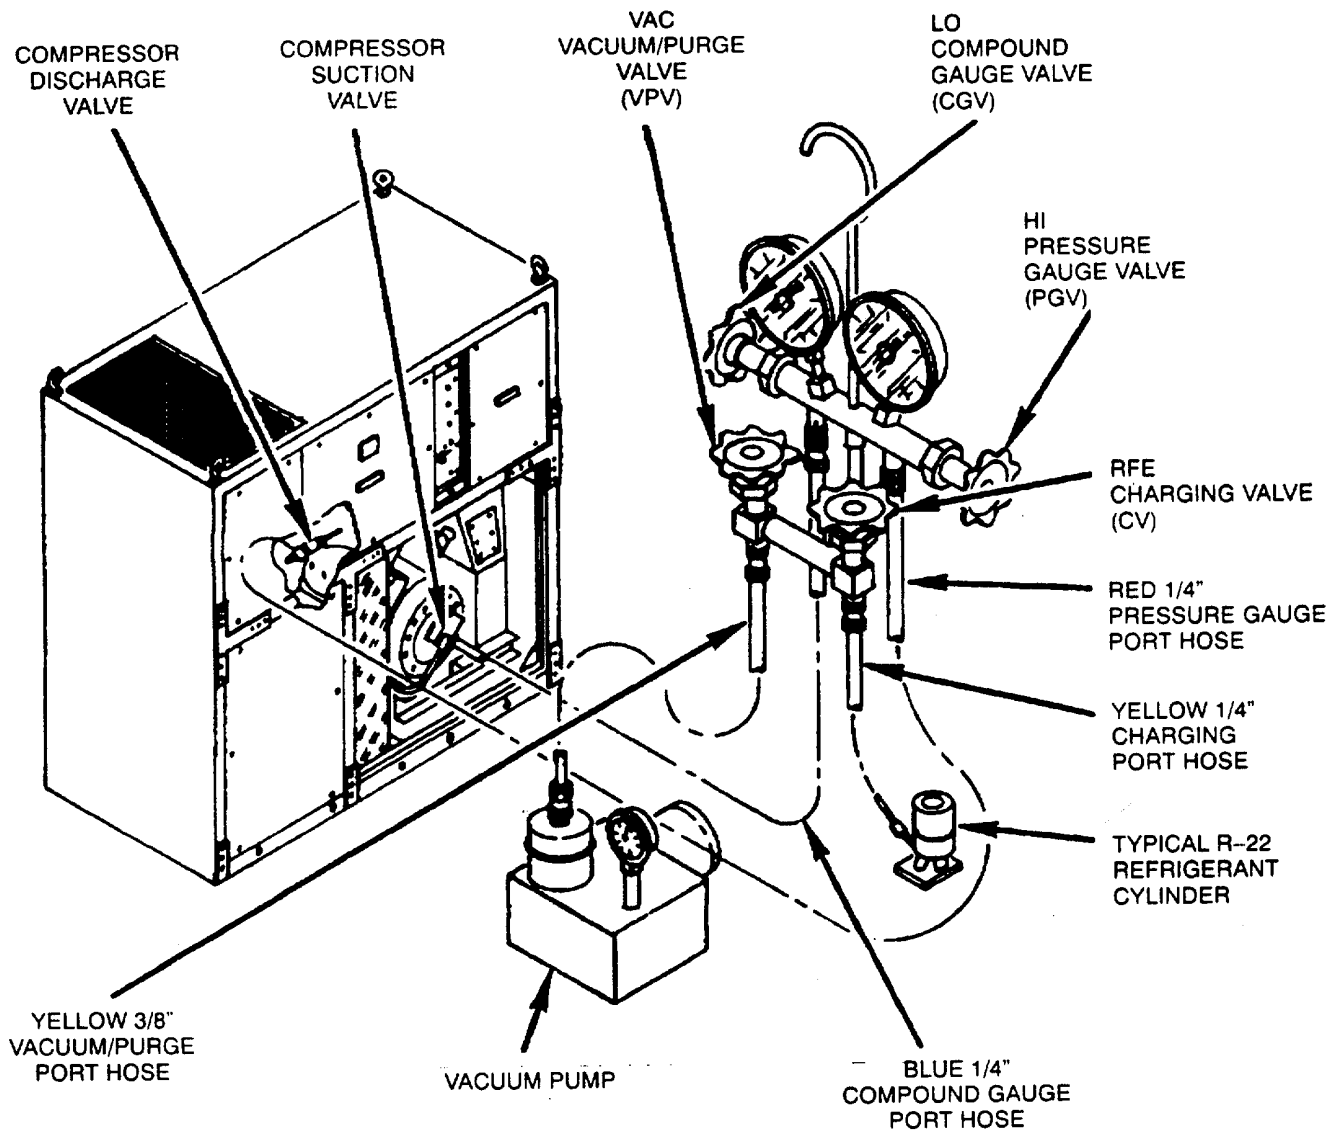

Figure 5-35. Adding Compressor Oil
4. Adding Compressor Oil (see Figure 5-35).